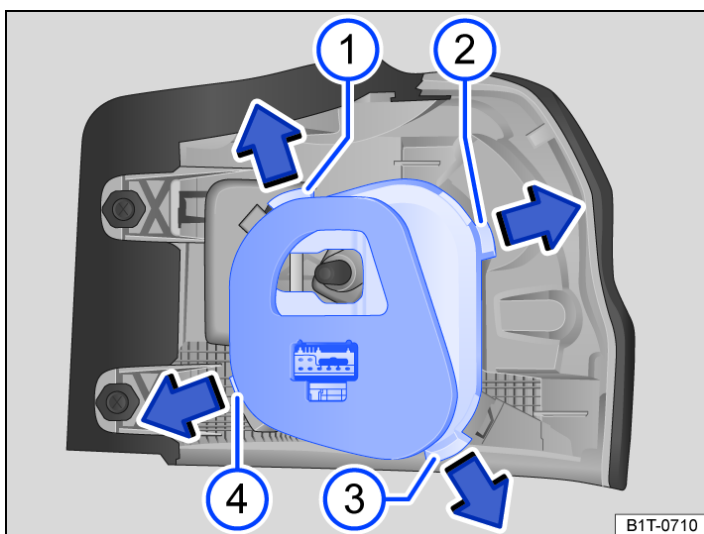

Fig. 2 Taillight in the vehicle body: removing the bulb holder.
1. To release the bulb holder, press the catches to in the direction of the arrow → *fig. 2* ① to ④.